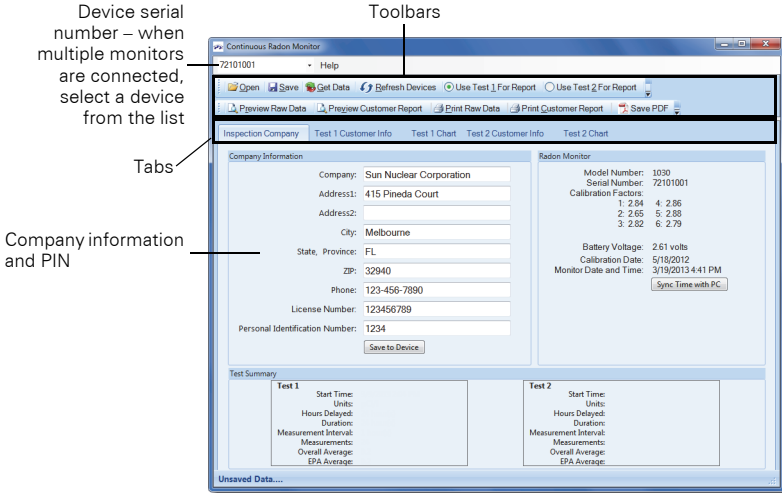

Figure 12. Main Screen, Inspection View
Tabs on the main screen provide access the panels for setting up company information, customer information, retrieving data, and generating reports. The toolbars at the top of the screen offer buttons for performing functions when working with data (Figure 12).
- 1 Connect the Radon Sentinel to the computer and launch the Continuous Radon Monitor software. The serial number of the device appears in the text box above the toolbar when the monitor is detected (Figure 12)
- 3 The software retrieves the data from the Radon Sentinel (Figure 12).